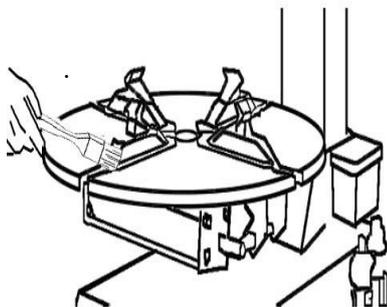

Fig 12
1. Clean the turntable every two weeks and lubricate the sliding groove of jaw holders. (Fig. 12)